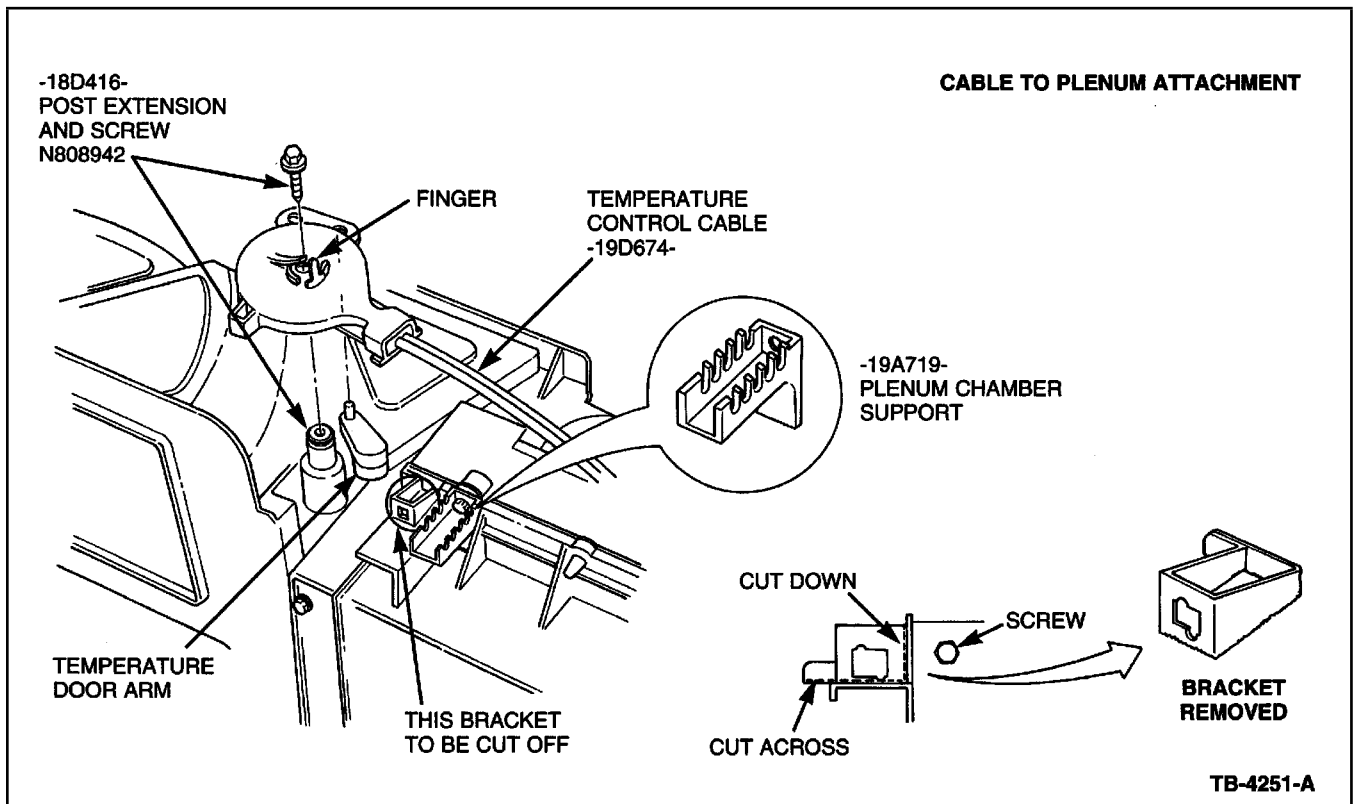

Figure 1 - Article 96-13-7
3. At the cable bracket on the plenum heater core cover, cut away the bracket using a hacksaw blade or similar tool. Refer to Figure 1.
5. At cam post, add post extension and secure with the new screw, torquing the screw to 1.7 N•m (15 lb-in). Refer to Figure 1.
6. Remove the upper left screw securing the plenum heater core cover and install the A/C plenum chamber support bracket between the ribs to the right side of the bracket which was cut off. Make sure the hole from the previously removed screw is lined up with the hole in the plenum chamber support bracket. Refer to Figure 1.
1. At the plenum chamber, move the temperature door arm to the "full warm" position (counterclockwise) and be sure it remains there throughout the installation procedure. Refer to Figure 1.
4. At the plenum, position the cam end of the cable over the post. Make sure the temperature door arm can move into the slot of the cam and push down until the cam is engaged on the post. An audible click can be heard. If it is necessary to remove the cam cable head, use moderate finger pressure on the plastic tab at the top of the cam cable head, moving it back so the cam may be pulled out off the post. Refer to Figure 1.
5. Place the twin cables in the center slots of the A/C plenum chamber support bracket. If adjustment is needed later, the cables can be moved to the other adjacent slots. Refer to Figure 1.